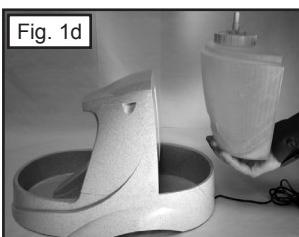
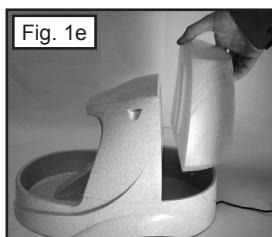

Fig. 1d
Fig. 1e
- 8) Remove the reservoir by lifting up and away from the fountain. Turn the reservoir upside down and remove the the reservoir cap. Fill the reservoir with water and replace the cap. Holding the reservoir upside down and backwards to the fountain (Fig. 1d), quickly turn the reservoir right side up and slide into place (Fig. 1e). The water level will equalize to approximately 1.27 cm below the rim of the bowl.